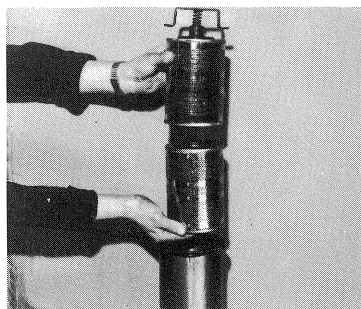

Fig. 46
- Remove filter cartridges (2 pieces) from the casing bottom (Fig. 46) and replace them by new ones.